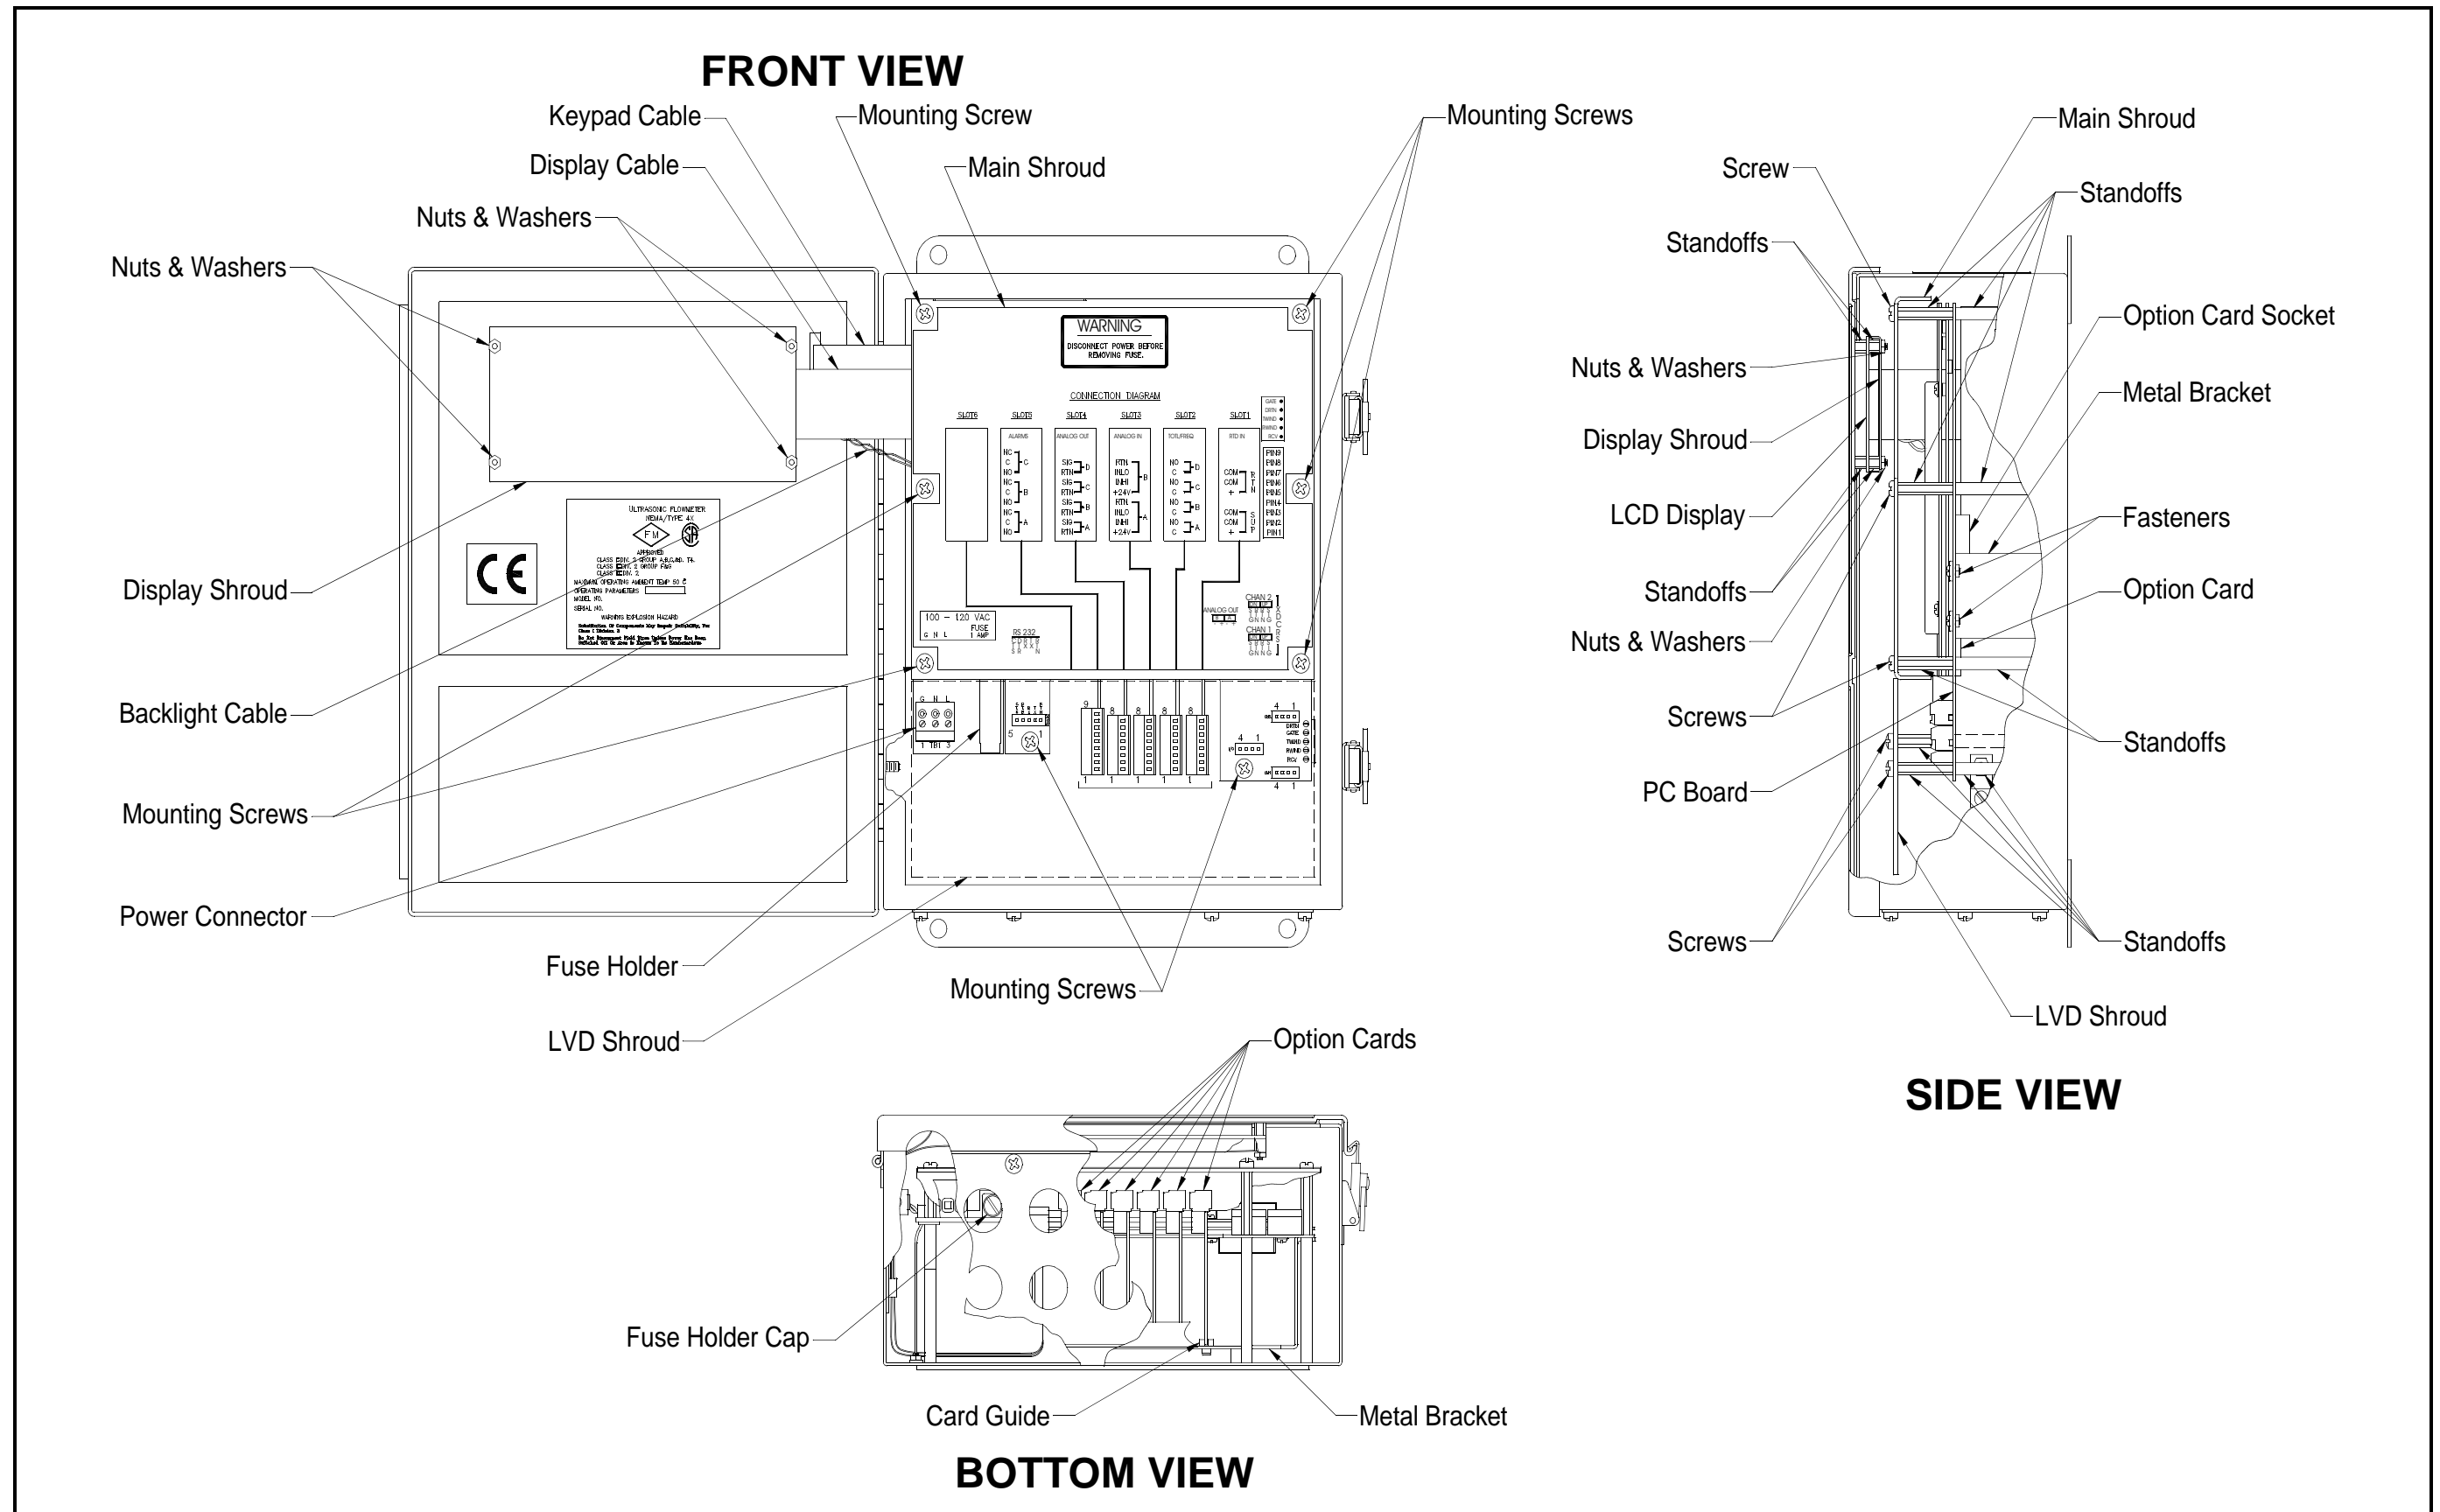
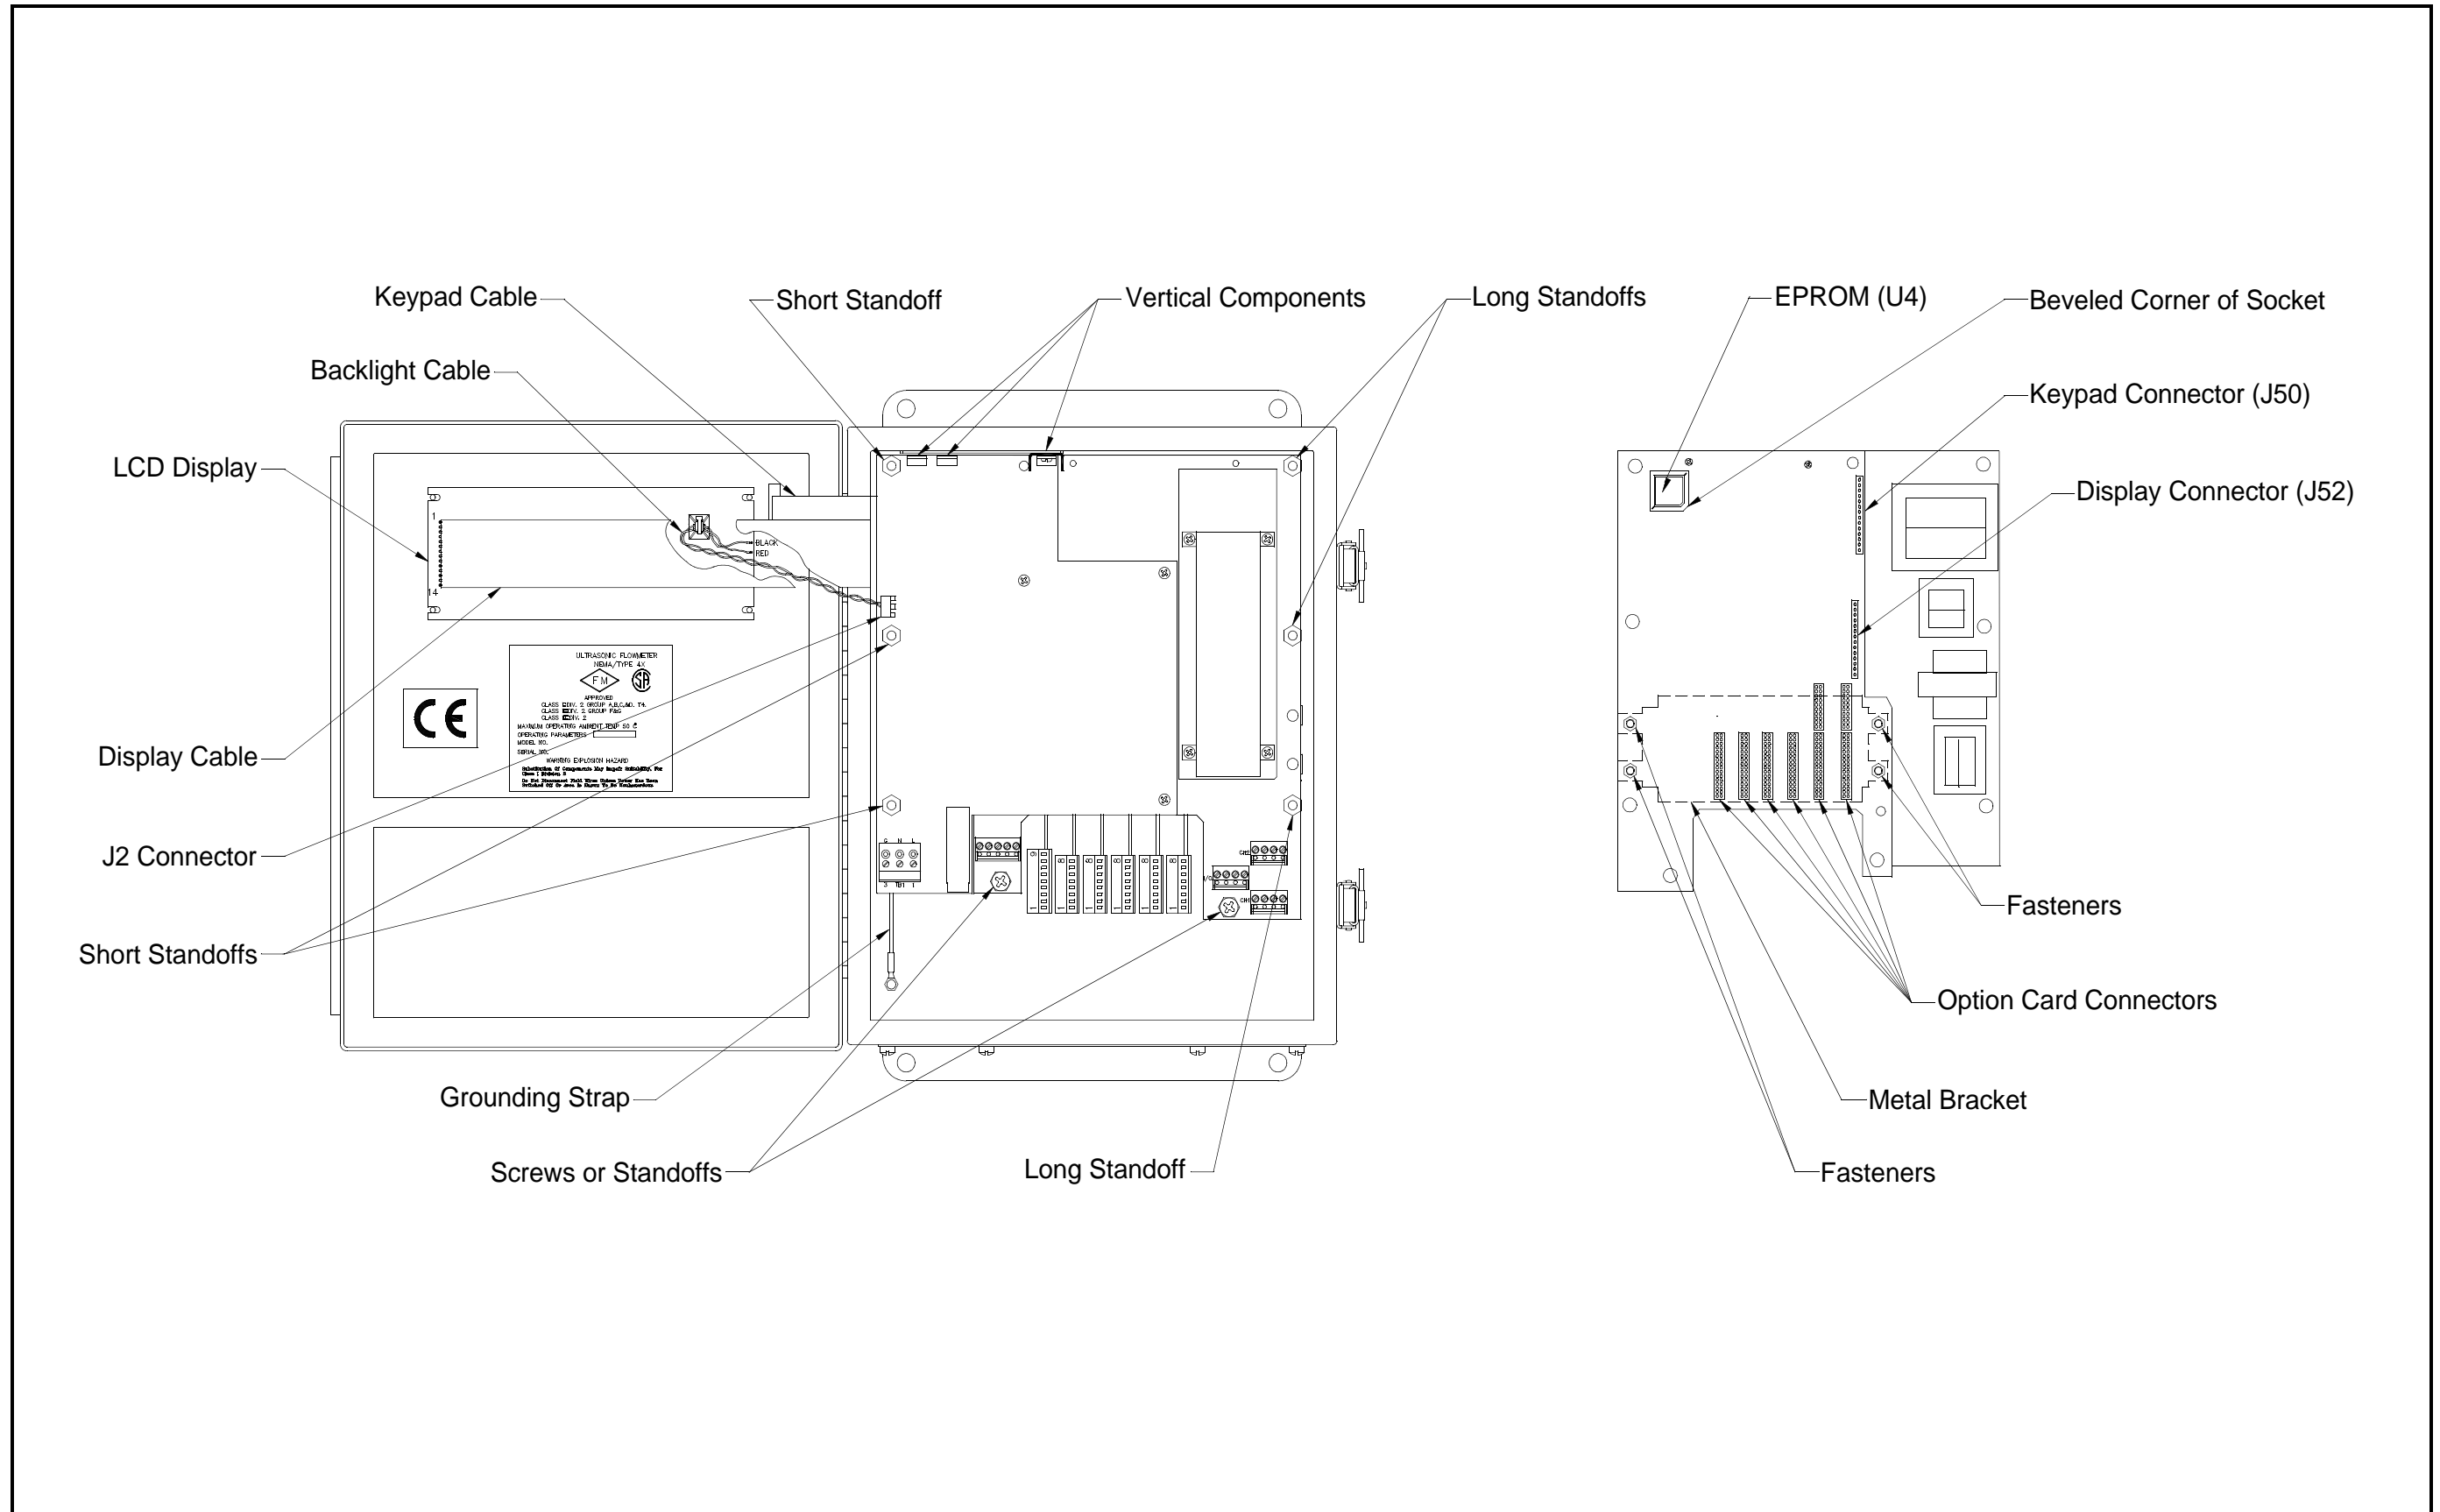

Figure 4-1: Standard Model DF868 - Electronics Console Assembly
Figure 4-2: Standard Model DF868 - Printed Circuit Board Assembly
All of the remaining maintenance procedures discussed in this chapter require removal of the printed circuit board. To accomplish this task, refer to Figure 4-1 on page 4-10 and Figure 4-2 on page 4-11 while completing the following tasks:
During this procedure, be very careful not to damage the upright components along the top edge of the printed circuit board (see Figure 4-2 on page 4-11). Severe or repeated bending of these components will break their leads.
The Model DF868's *User Program* is stored on an erasable programmable read only memory (EPROM) chip. The EPROM, which is designated as component U4, is located in the top left corner of the rear of the printed circuit board. See Figure 4-2 on page 4-11 for a rear view of the printed circuit board. EPROM replacement may be required to replace a defective chip or to upgrade to a newer software version. To replace the EPROM, complete the following steps:
To install an option card, refer to Figure 4-2 on page 4-11 and complete the following steps:
5. Place the metal bracket over the option cards, making sure that all option cards are aligned with the plastic card guides in the bracket. Secure the metal bracket to the printed circuit board with the snap rivets provided. See the installed assembly in Figure 4-1 on page 4-10.
The Model DF868's measurements are displayed on a two-pane LCD graphic display panel. The LCD display normally provides years of dependable service, but it is easily field-replaceable when necessary. To replace the LCD display, see Figure 4-1 on page 4-10 for the component locations, and complete the following steps:
4. Place the new LCD display assembly over the mounting studs on the console cover and fasten it in place with the four standoffs. Make sure that the LCD display assembly is oriented as shown in Figure 4-2 on page 4-11.
Whether the printed circuit board was removed for replacement or for one of the other procedures discussed in this chapter, reinstallation of the printed circuit board is the final step in the process. Refer to Figure 4-1 on page 4-10 and complete the following steps:
During this procedure, be very careful not to damage the vertical components along the top edge of the printed circuit board (see Figure 4-2 on page 4-11). Severe or repeated bending of these components will break their leads.
1. Position the printed circuit board within the electronics console with the top edge tilted forward. Insert the display ribbon cable and keypad ribbon cable connectors into their sockets on the rear of the printed circuit board. See Figure 4-1 on page 4-10 and Figure 4-2 on page 4-11 to identify the cables and sockets. Note that the keypad cable connects to the upper socket and the display cable connects to the lower socket.